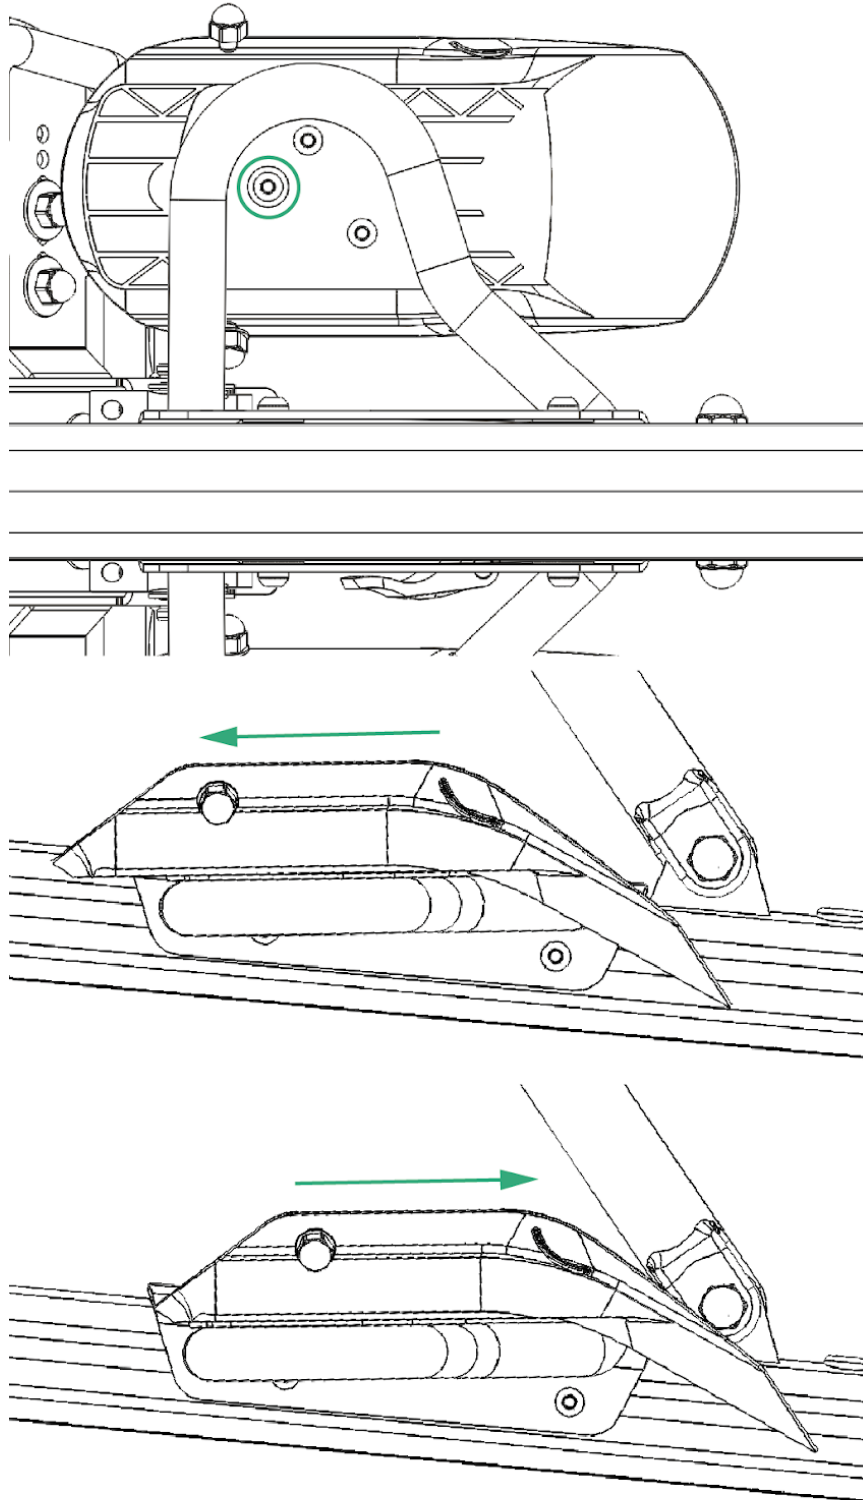

Figure 3.4.8 - Adjusting individual leg support
2. **Adjust individual calf supports** by loosening the screw marked with a green circle (hex key **4 mm**), see figure 3.4.8. The screw must not be screwed off completely, just loosened. The calf support can be pushed along the track on the rear slider. This can be done individually for each calf support. This is beneficial for users with differing thigh and calf